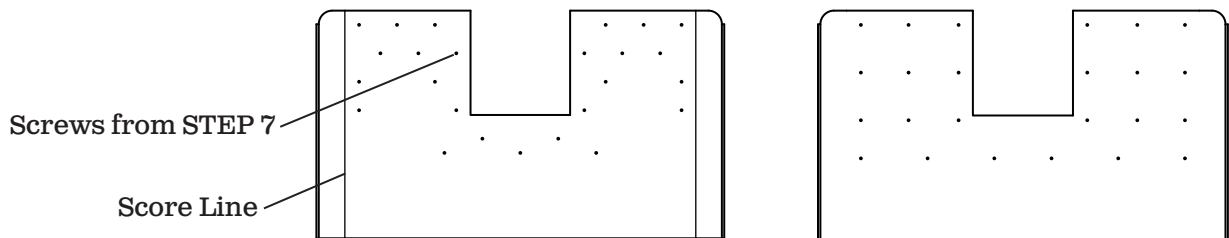

Figure 19
- 1) **Figure 19.** Must use a minimum of (25) 3/8" self-tapping screws. Lay out and mark pattern for bolts across the bulkhead and beside and behind the doghouse in staggered pattern at a minimum of 6" apart making sure holes are in cross members. Also place screws along score lines.